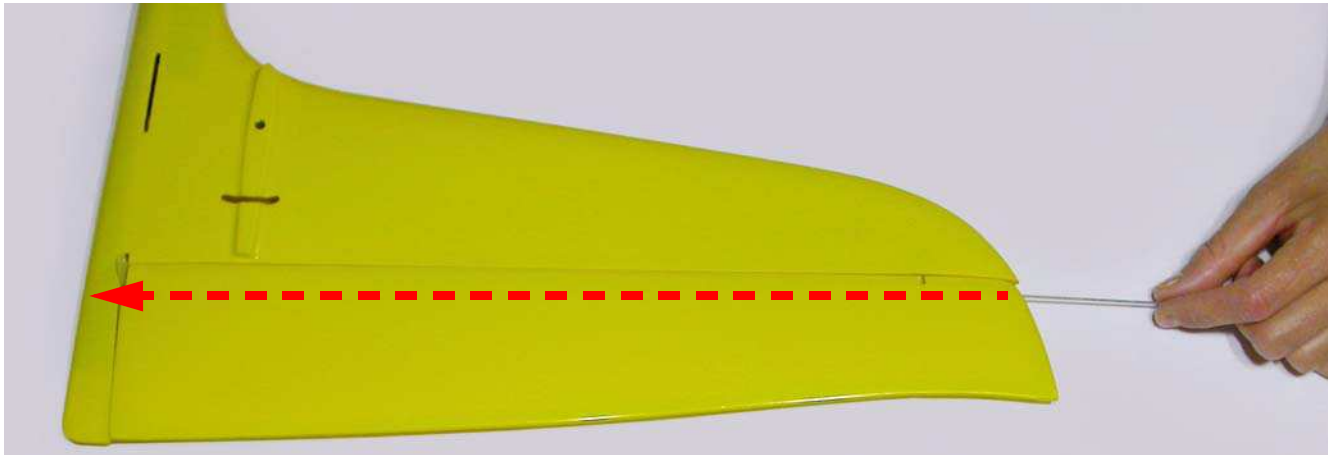

Fig.47: Insert the pin.
- insert the pin “PDER” as shown in figure 47 intercepting the holes of both the supports “SSUP” and “SINF”;